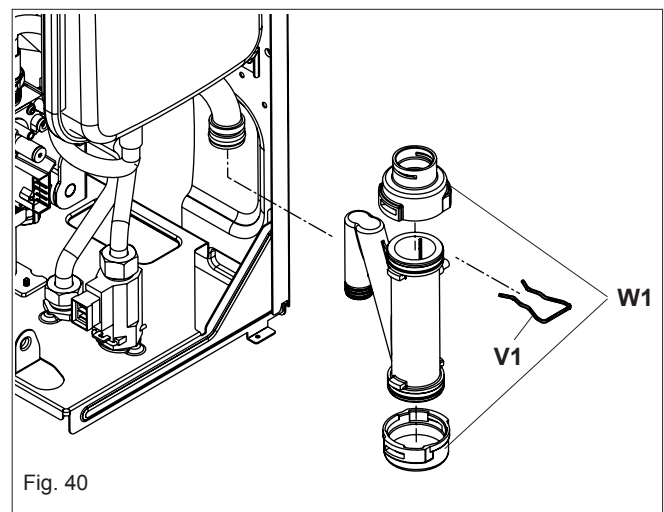

Fig. 40
6.19 CONDENSE TRAP REMOVAL (fig. 40)